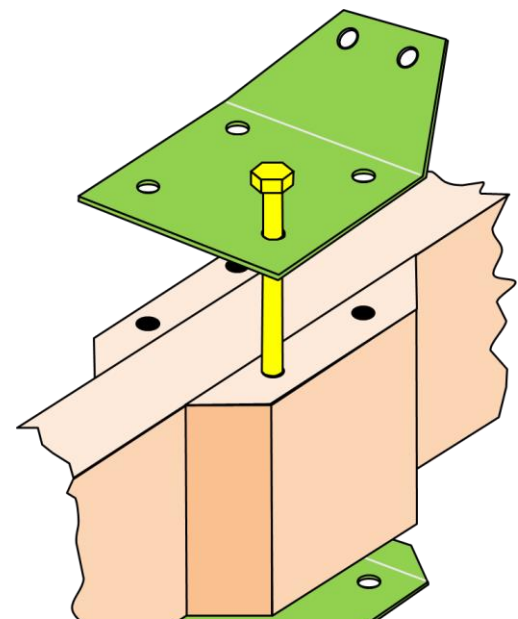
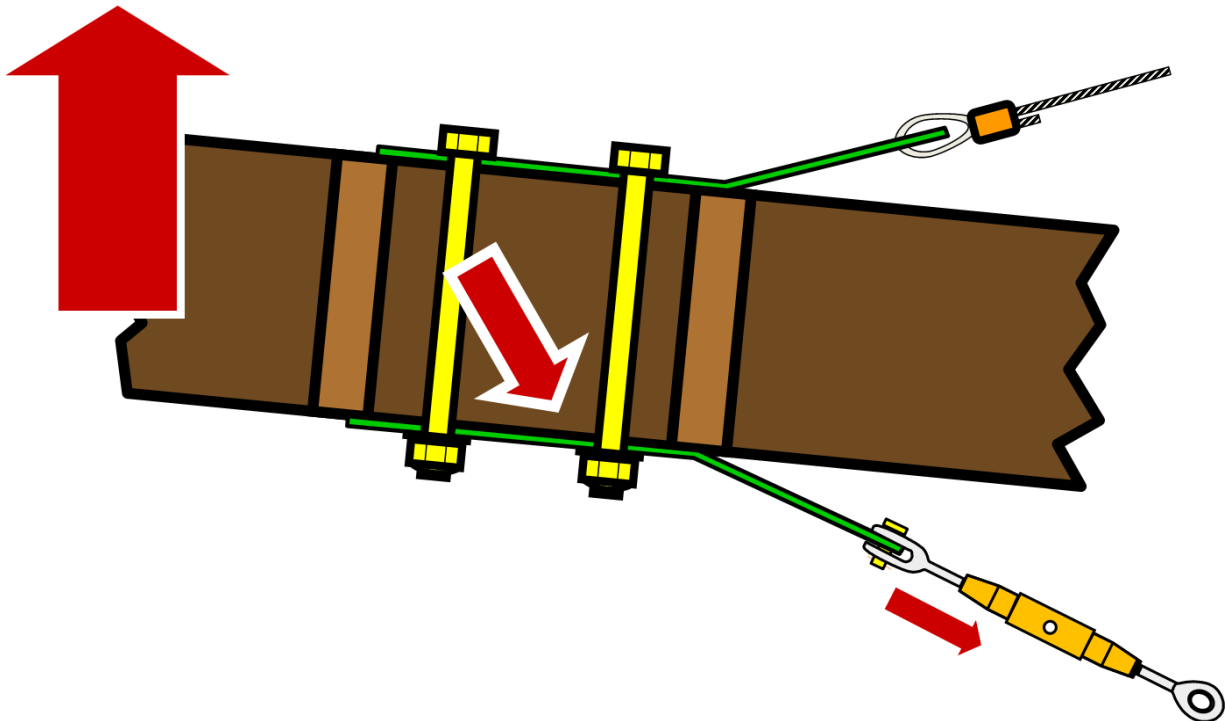

Figure 8: Wing Wire Anchor Pads and Plates
Figure 9: Wing Anchor Cross-Section
With the stock wing-bracing system, anchor plates are bolted to the mounting blocks as seen in Figure 8. These require very long bolts: AN3-54A (5 1/2" long), AN3-64A (6 1/2" long) and AN3-66A (6 3/4" long). The two longest bolts
The wing bracing wires are attached to metal plates, which are bolted through the wing wire mounting pads. The pads are shown on page 22 of the article, Figure 4.2, and two metal plates are bolted the long way through them. Figure 8 in the “Errata” section also shows this attachment method. Figure 9 shows this arrangement in cross-section.
- There is also one case where the through-bolts shown in Figure 9 failed in tension. As you can see from the diagram, the wing bolts are in tension as well as shear. The case mentioned happened when the heads of the through-bolts ripped off.